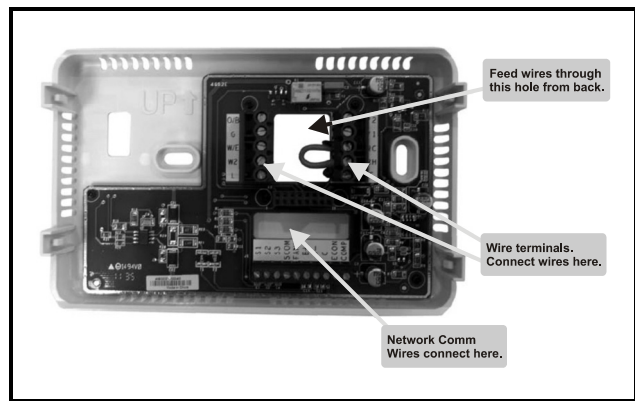

Figure 3-2 - Location of Wire Terminals
3. **Connect the wires to the thermostat Mounting Plate.** Connect the wires beneath the terminal screws on the base. *Figure 3-2* shows the location of the wire terminals in the Commercial Communicating Programmable Thermostat. There are two sets of terminals on either side of the hole where the